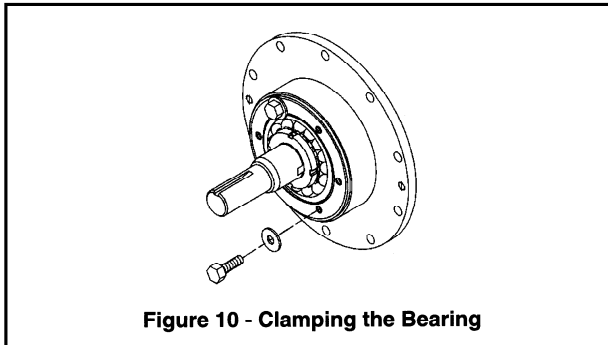

Figure 10 - Clamping the Bearing
5. Hand pack the ball bearing (24) with grease. Use *Amoco® - Amolith All Weather Grease*, or equivalent.
6. Install the bearing into the head recess. The bearing balls should face outward, with the grease shield inward. Ensure that the bearing is fully and squarely seated against the lip seal housing or mechanical seal. On pumps equipped with a lip seal, install two 3/8" (10 mm) washers and two bearing cover capscrews (28) to clamp the bearing and compress the lip seal housing inner O-ring for proper bearing locknut adjustment (see Figure 10). The washers and capscrews will be removed after the locknuts are adjusted.